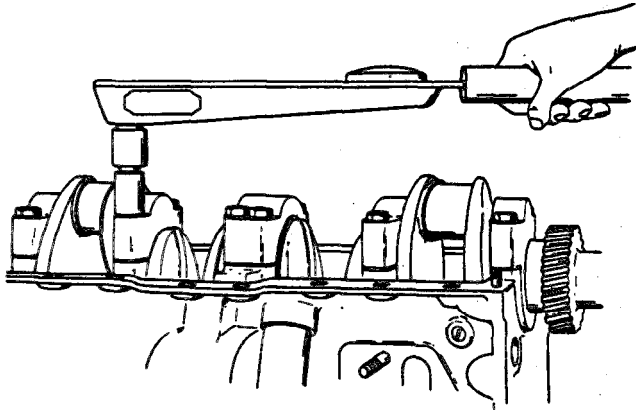

Figure 3-37. Tightening Main Bearing Cap Bolts
d. With lower main bearings (4 and 6, figure 3-25) installed in bearing cap (7 thru 10) from which they were removed, install caps (7 thru 10) in their original positions on cylinder block. Caps are marked with cylinder number in which they are used. Center main bearing cap (9) is secured with four 1/2-inch diameter bolts. Remaining bearing caps are secured with two 9/16-inch diameter bolts each. Draw bolts up snug, then rap caps sharply with a soft mallet to seat them properly. Check original center main bearing cap for a T stamped on side opposite cylinder number to determine required torque value. If bearing cap is stamped with a T, torque center main bearing cap bolts to 130 foot-pounds and other main bearing cap bolts to 100 foot-pounds. If bearing caps are not stamped with a T, torque all bolts to 80 foot-pounds. Refer to figure 3-37. Start with center cap (9, figure 3-25) and work alternately toward both ends of block. If bearings have been installed properly, crankshaft will turn freely with all main bearing caps drawn down to specified torque.